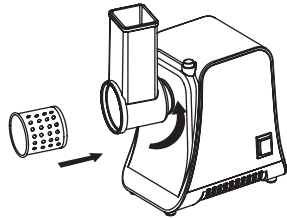

Figure 16.
4. Insert the desired grating or shredding cone (fig. 16).